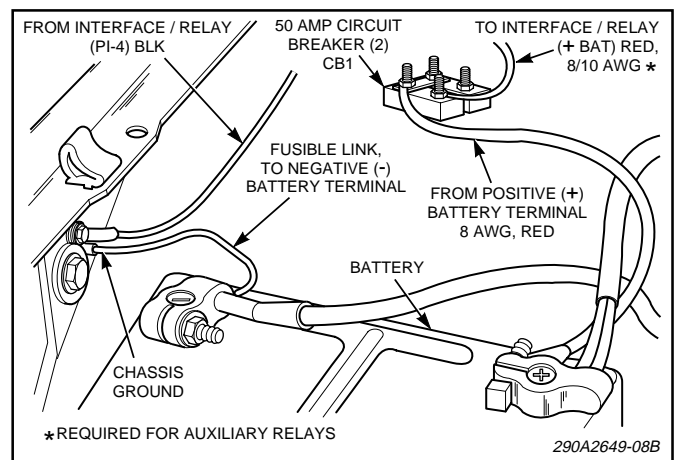

Figure 3-9. Battery Connections.
4. See figure 3-9. To protect the wire, 2 circuit breakers (CB1) rated at 50-amperes (Federal
**When making the following connections, never exceed the current rating of the circuit breakers (CB1) near the battery (see figure 3-9). Failure to do this will result in a shutdown of the vehicle warning system.**